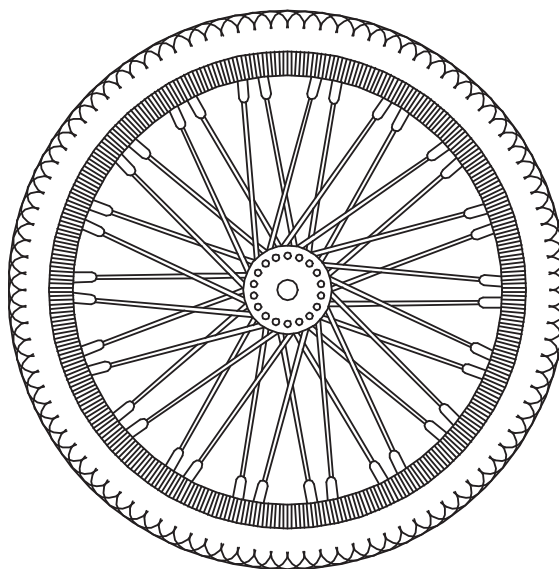

Fig. 17-25
3. Draw the wheel shown in Fig. 17-25 (you decide how).